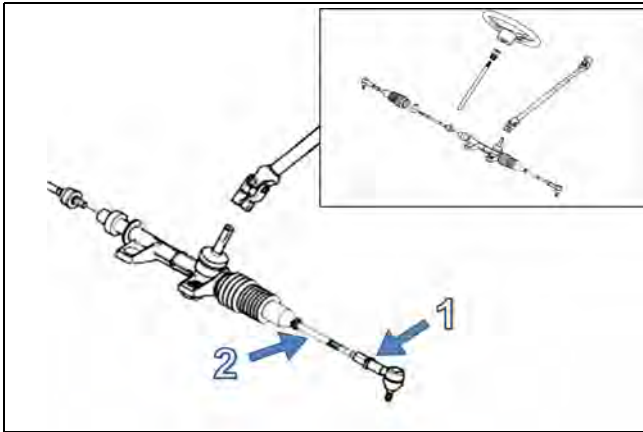

Figure 21
To adjust the SxS's steering system, first, loosen coupling rod nut (1), screw or unscrew the coupling rod (2) an equal number of revolutions on both sides of the vehicle. See Figure 21.